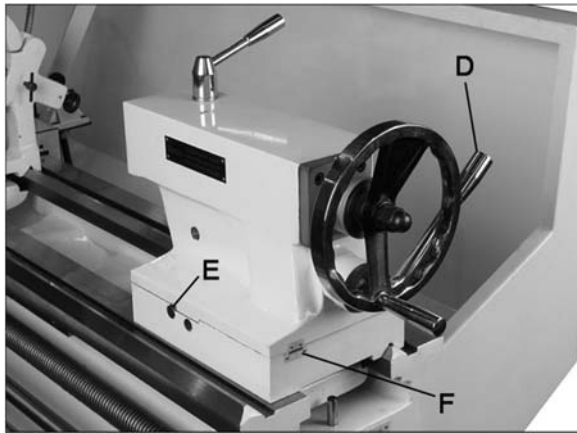

Figure 32 – Tailstock offset adjustment
The tailstock can be offset to cut shallow tapers up to 5° angle. See Figure 32.
3. Align tailstock using the off-set screws at front and back (see E, Figure 32) until tailstock is aligned.